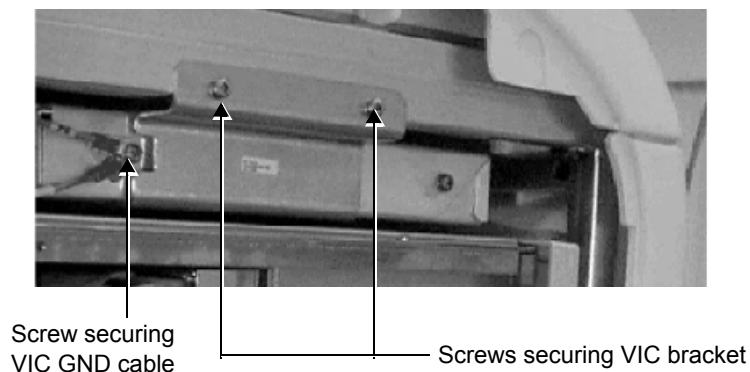

Figure 8-32 VIC Assembly
- 3.) Unscrew and remove the two screws located at the top of the bracket that connects the VIC assembly to the metal frame - see Figure 8-32.